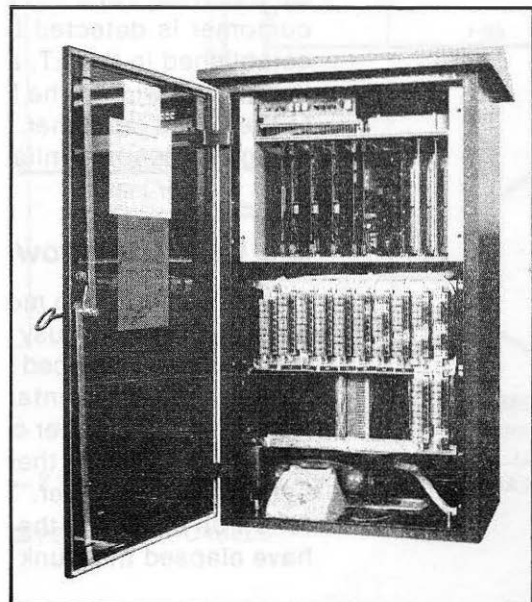

Fig 3 Remote Terminal
The Remote Terminal (RT) comprises frame mounted ASUs pre-wired to gas discharge tube line protection units and mounted in a steel cabinet (see Fig 3). This cabinet is positioned alongside the PCP that is to be relieved. A duct is provided between the RT and PCP jointing chamber to facilitate the cabling between them. The RT is powered by a 24 V battery which is charged by current fed over the control pair and free trunks.